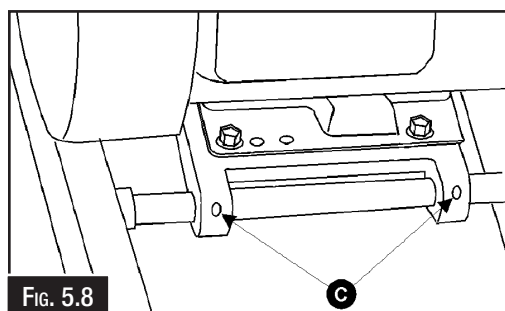

FIG. 5.8
3. Shift the motor left or right until the pulleys align using a straight edge as shown. (Fig 5.8 & 5.9 & 5.10).